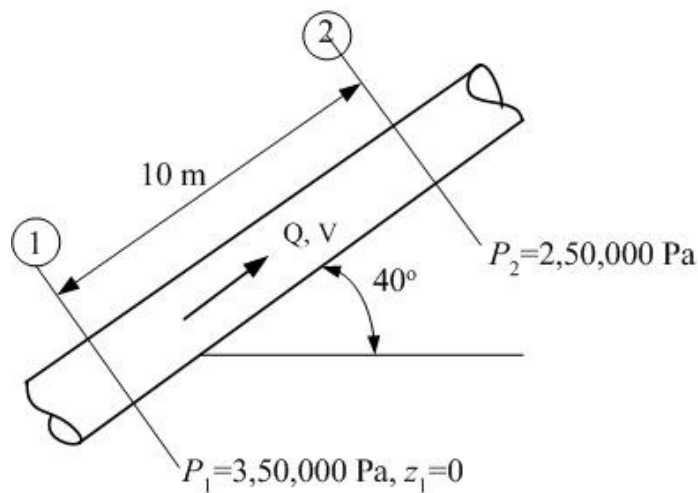

Fig. Q.3
3. An oil with density, $\rho=900 \text{ kg/m}^3$ and kinematic viscosity, $\nu=0.0002 \text{ m}^2/\text{s}$ flows through an inclined pipe of diameter 6 cm as shown in Fig. Q.3. The pressure and elevation are known at sections 1 and 2, 10 m apart. Assuming steady laminar flow, (a) verify that the flow is up, (b) compute h_f between 1 and 2, and compute (c) Q , (d) V and (e) Re . Is the flow really laminar?